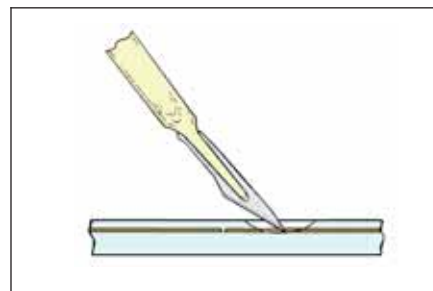

Figure 1 Laminate removal.
- Remove the laminate around the damaged conductor by working on the thinnest side of the flexible conductor. Laminate can be removed by using a light abrasive such as a pumice-impregnated wheel or rotary bristle brush. Removal may also be accomplished by cutting with a scalpel or dental tool. (See Figure 1.)